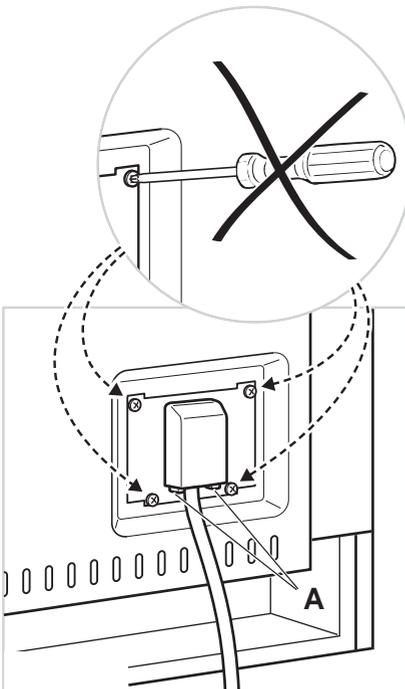

Fig. 12 Terminal block
- 1 Unhook the terminal block cover by inserting a screwdriver into the two hooks 'A' (fig. 12).